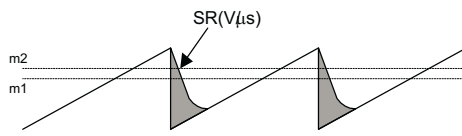
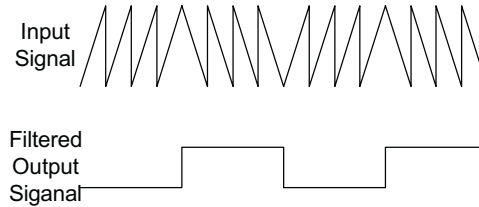
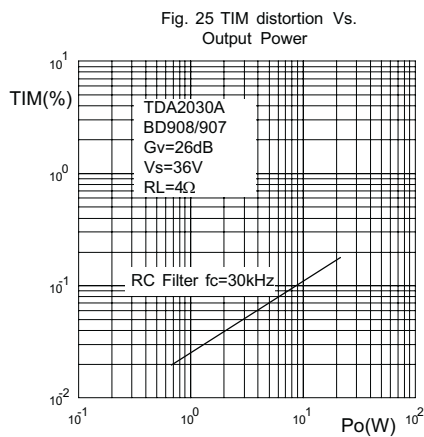

Fig.23 20kHz sawtooth waveform
Fig.24 Inverting sawtooth waveform
Fig. 25 TIM distortion Vs. Output Power
The "inverting- sawtooth" method of measurement is based on the response of an amplifier to a 20KHz saw-tooth wave-form. The amplifier has no difficulty following the slow ramp but it cannot follow the fast edge. The output will follow the upper line in Fig.23 cutting of the shade area and thus increasing the mean level. If this output signal is filtered to remove the saw-tooth, direct voltage remains which indicates the amount of TIM distortion, although it is difficult to measure because it is indistinguishable from the DC offset of the amplifier. This problem is neatly avoided in the IS-TIM method by periodically inverting the saw-tooth wave-form at a low audio frequency as shown in Fig.24. In the case of the saw-tooth in Fig. 25 the means level was increased by the TIM distortion, for a saw-tooth in the other direction the opposite is true.
In Fig.25 The experimental results are shown for the 30W amplifier using the TDA2030A as a driver and a low-cost complementary pair. A simple RC filter on the input of the amplifier to limit the maximum signal slope (SS) is an effective way to reduce TIM.